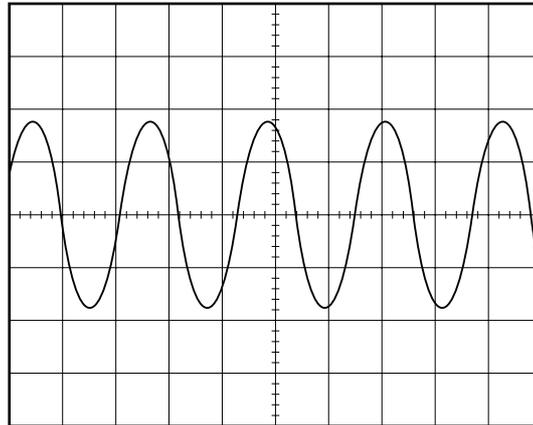

Figure 24. RF adjustment.
- 9 Adjust L304 for max amplitude on the oscilloscope. Readjust C326 for max amplitude and IF $455 \pm 1,5 \text{ kHz}$ (*filter the IF signal to aid in accurate measurement of frequency*). Adjust C346 for max amplitude. See figure 24.